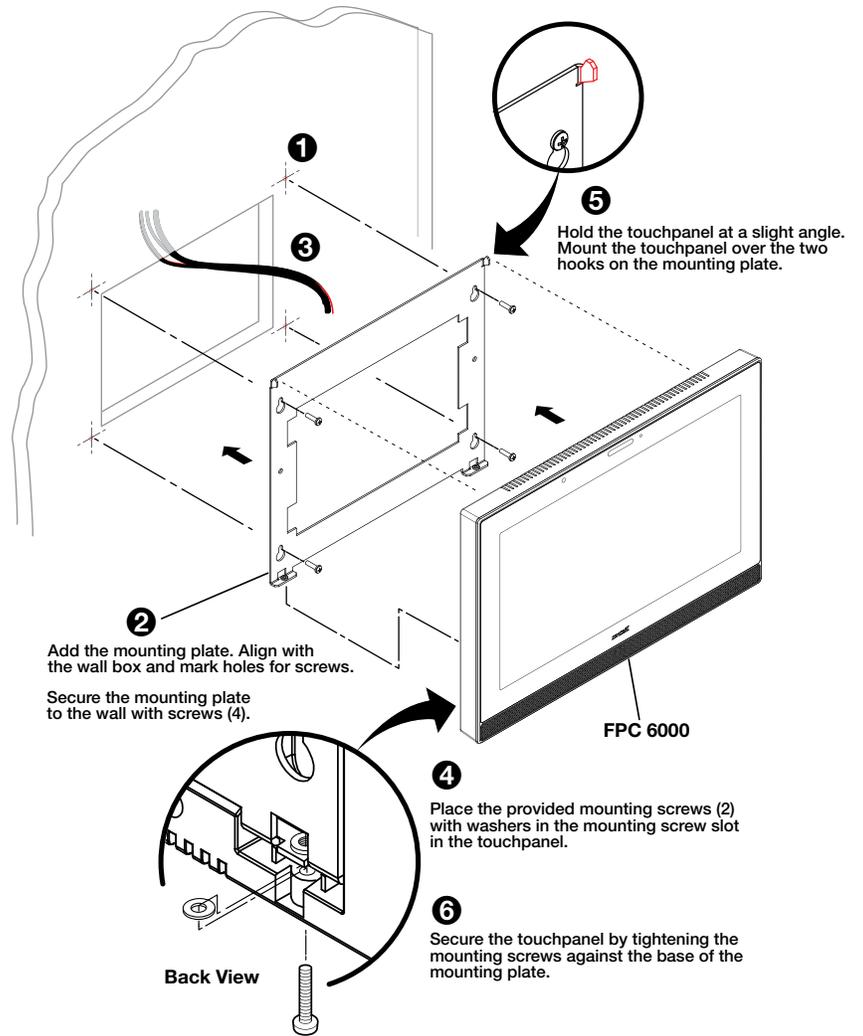

Figure 2. Wall Mounting the FPC 6000
7. Hold the touchpanel at a slight angle and lower the notches at the top of the back panel (See figure 2, 4) over the hooks of the mounting plate.